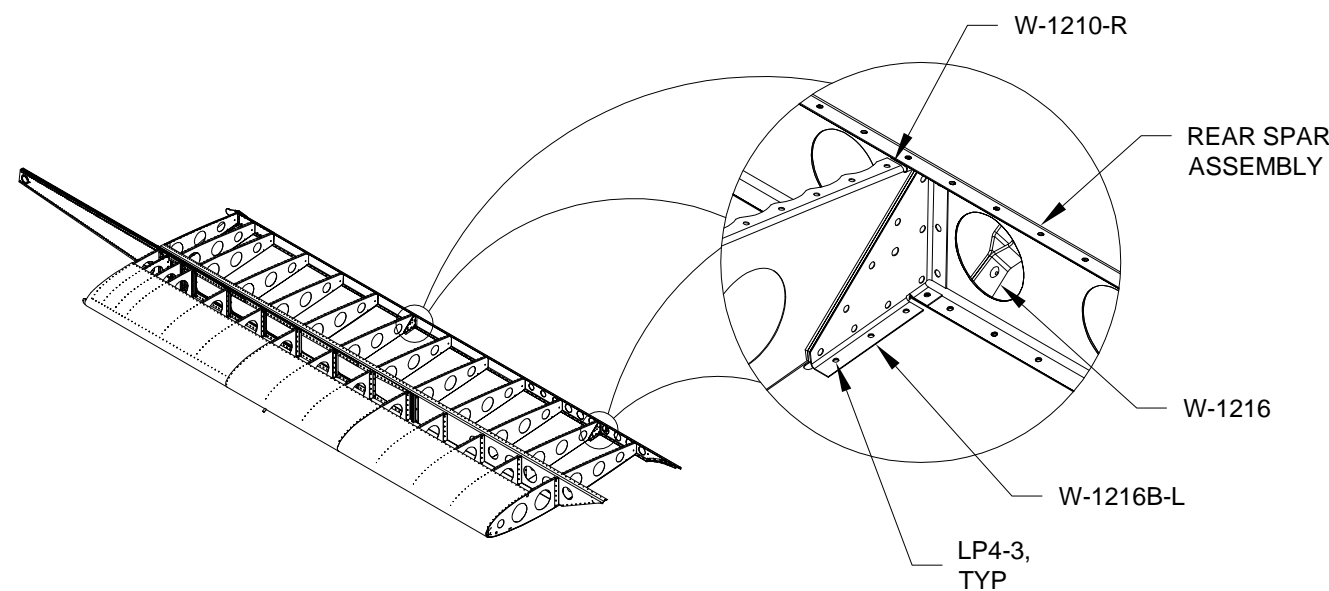

FIGURE 2: ATTACHING HINGE RIBS
Step 3: Cleco the bottom flange of the two W-1216B-L Hinge Ribs to the W-1202-L & W-1203-L Mid & Outbd Wing Skins. Rivet the bottom flange of the hinge ribs to the mid & outbd wing skins. See Figure 2. Insert two W-1216 Hinge Bracket Assemblies through the openings in the W-1202-L & W-1203-L Mid & Outbd Wing Skins. Flex the hinge ribs out of the way as required to allow insertion of the Hinge Bracket Assemblies. Insert clecos through the hinge ribs and Hinge Bracket Assemblies into the W-1210-R Main Ribs. Cleco the hinge ribs to the Rear Spar Assembly. Rivet the hinge ribs to the Hinge Bracket Assemblies, main ribs, and Rear Spar Assembly as shown in Figure 2.